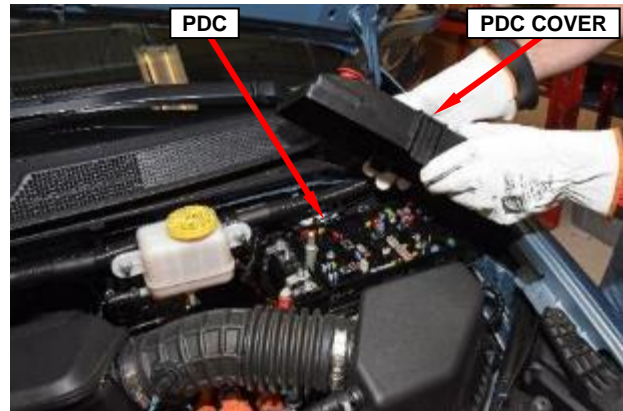

Figure 5 – Power Distribution Center
12. Remove the 12-volt Power PDC cover (Figure 5).